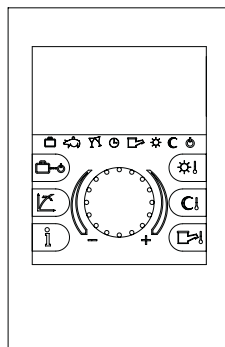

Fig. 1-7
• **Zone manager (Fig. 1-7).** In addition to the functions described in the previous point, the zone manager allows to control all the important information regarding operation of the appliance and the heating system with the opportunity of easily intervening on the previously set parameters without having to go to the place where the appliance is installed. The climate chromothermostat incorporated into the remote panel enables the system flow temperature to be adjusted to the actual needs of the room being heated, in order to obtain the desired room temperature with extreme precision and therefore with evident saving in running costs. It also allows to display the effective room temperature and the external temperature (if external probe is present). The zone manager is powered directly by the cascade heat adjuster via 2 wires.